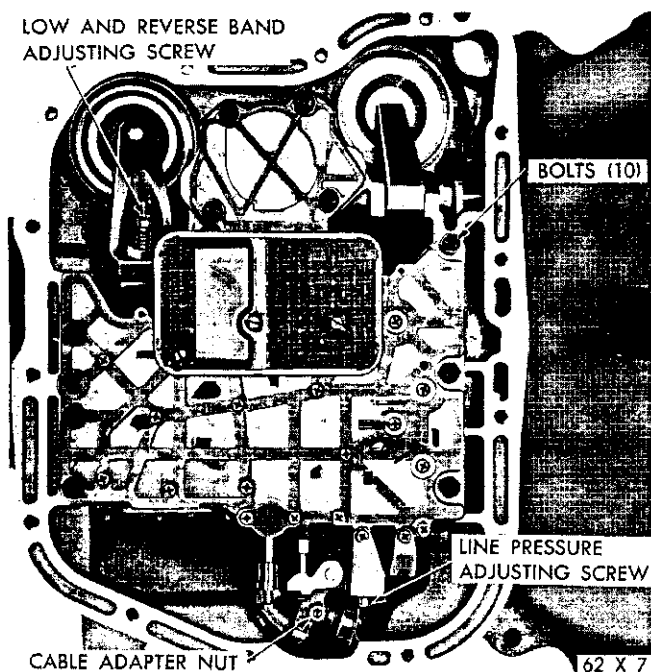

Fig. 25—Bottom View of Transmission (Pan Removed)
(1) Raise vehicle, drain transmission fluid and remove the oil pan.
(2) Loosen the adjusting screw lock nut and back off nut approximately five turns (Fig. 25). Check adjusting screw for free turning in the lever.
(3) Using wrench, Tool C-3380 with adapter C-3705, tighten band adjusting screw to 47-50 inch-pounds torque. If adapter C-3705 is not used, tighten adjusting screw to 72 inch-pounds which is the true torque.
(4) Back off adjusting screw 3 turns. Hold the adjusting screw in this position and tighten lock nut to 35 foot-pounds torque.
(5) Reinstall oil pan using new gasket. Tighten the oil pan bolts to 150 inch-pounds torque.